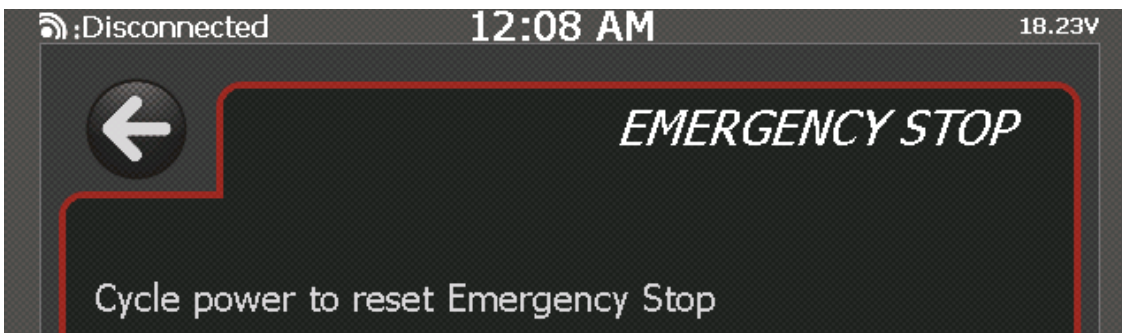

Figure 2.11.2. MDT-2 screen after the *EMERGENCY STOP* button has been twisted to release it so that the instrument can be reset.
- 1) Twist the *EMERGENCY STOP* button to release it and return the instrument to a state in which reset is possible. Power will not be restored to the motor system until the MDT-2 instrument has been turned off and then on again (see Figure 2.11.2).